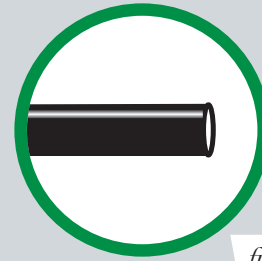

fig. 16
When cutting air lines, use a sharp knife or a hose cutter and make clean, square cuts (Fig. 16). Do not use scissors or wire cutters because these tools will deform the air line, causing it to leak around fittings. Do not cut the lines at an angle.
1. If there is a problem with the push-to-connect fitting, remove the air line as described above. Trim 1" off the end of the air line. Be sure the cut is clean and square (see Fig. 16).